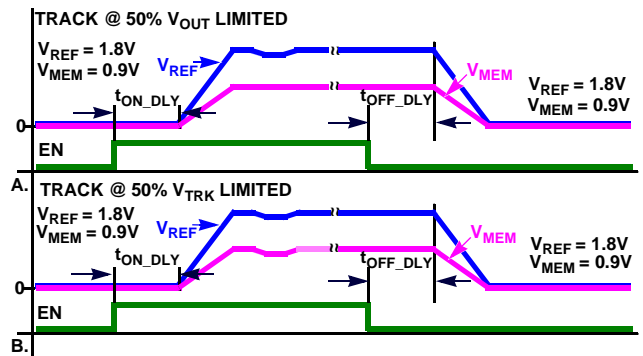

FIGURE 20. RATIOMETRIC TRACKING
- a. Track at 50% V_{OUT} limited. Member rail tracks the reference rail and stops when the member reaches 50% of the target voltage, Figure 20 (A).
- b. Track at 50% VTRK limited. Member rail tracks the reference at the instantaneous voltage value applied to the VTRK pin until the member rail reaches 50% of the reference rail voltage, or if the member is configured to less than 50% of the reference the member will achieve its configured target, Figure 20 (B).
| Tracking Configuration Figure 20 (A) | | | | | | |
| Tracking Configuration Figure 20 (B) | | | | | | |